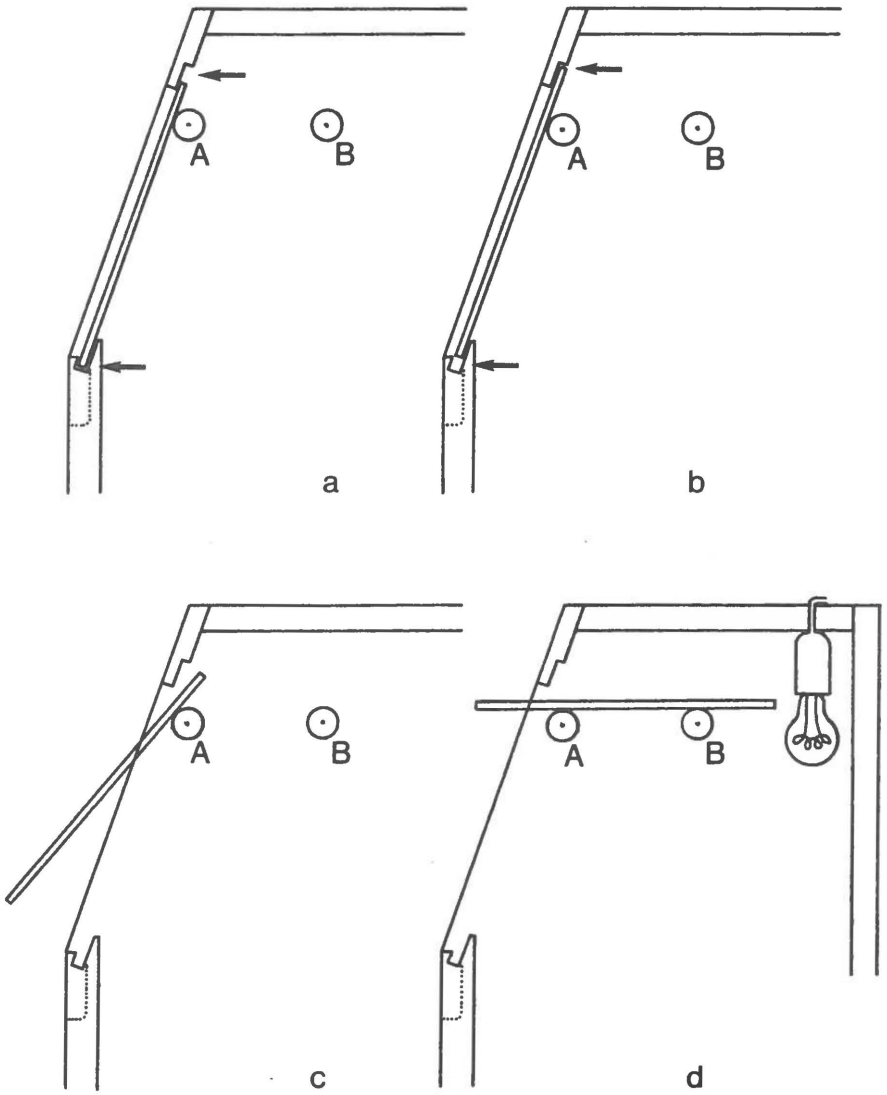

Fig. 14.
must be done very accurately. First I will explain how the front glass can be opened and closed. When closed the glass rests in the groove of the front and is pushed against the frontborder at both sides by a pair of supports (A in figure 14-a), thereby closing the terrarium completely. By inserting a finger in the purpose-made groove you can lift the front glass slightly (figure 14-b), after which it can be pulled up towards you (figure 14-c) and then slid onto the two pairs of side-supports A and B (figure 14-d).
mm) which have one flat side (figure 15). They are designed for mounting shelves in a book-case, but are ideal for the present function because they allow you some tolerance in adjusting the front window (figure 16). When the window has been adjusted to be exactly flush against the frontborder, you can fit the second pair of supports (B), at the same height (about 11 cm in the smaller terraria and about 16 cm in the larger terraria) behind supports A. By correctly positioning the flat surface of these last supports, you can let the front window rest on all four supports without wobbling. To determine the position of the front supports and the height of the front window (there must be just enough room left to push the front window up (figure 14-b), you can conveniently use a piece of thick cardboard.